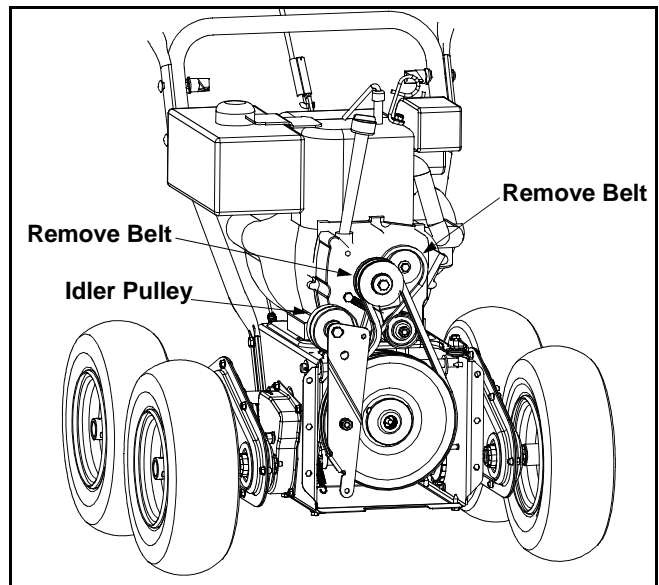

Figure 15
- Remove the two belts from the two engine pulleys. See Figure 15.